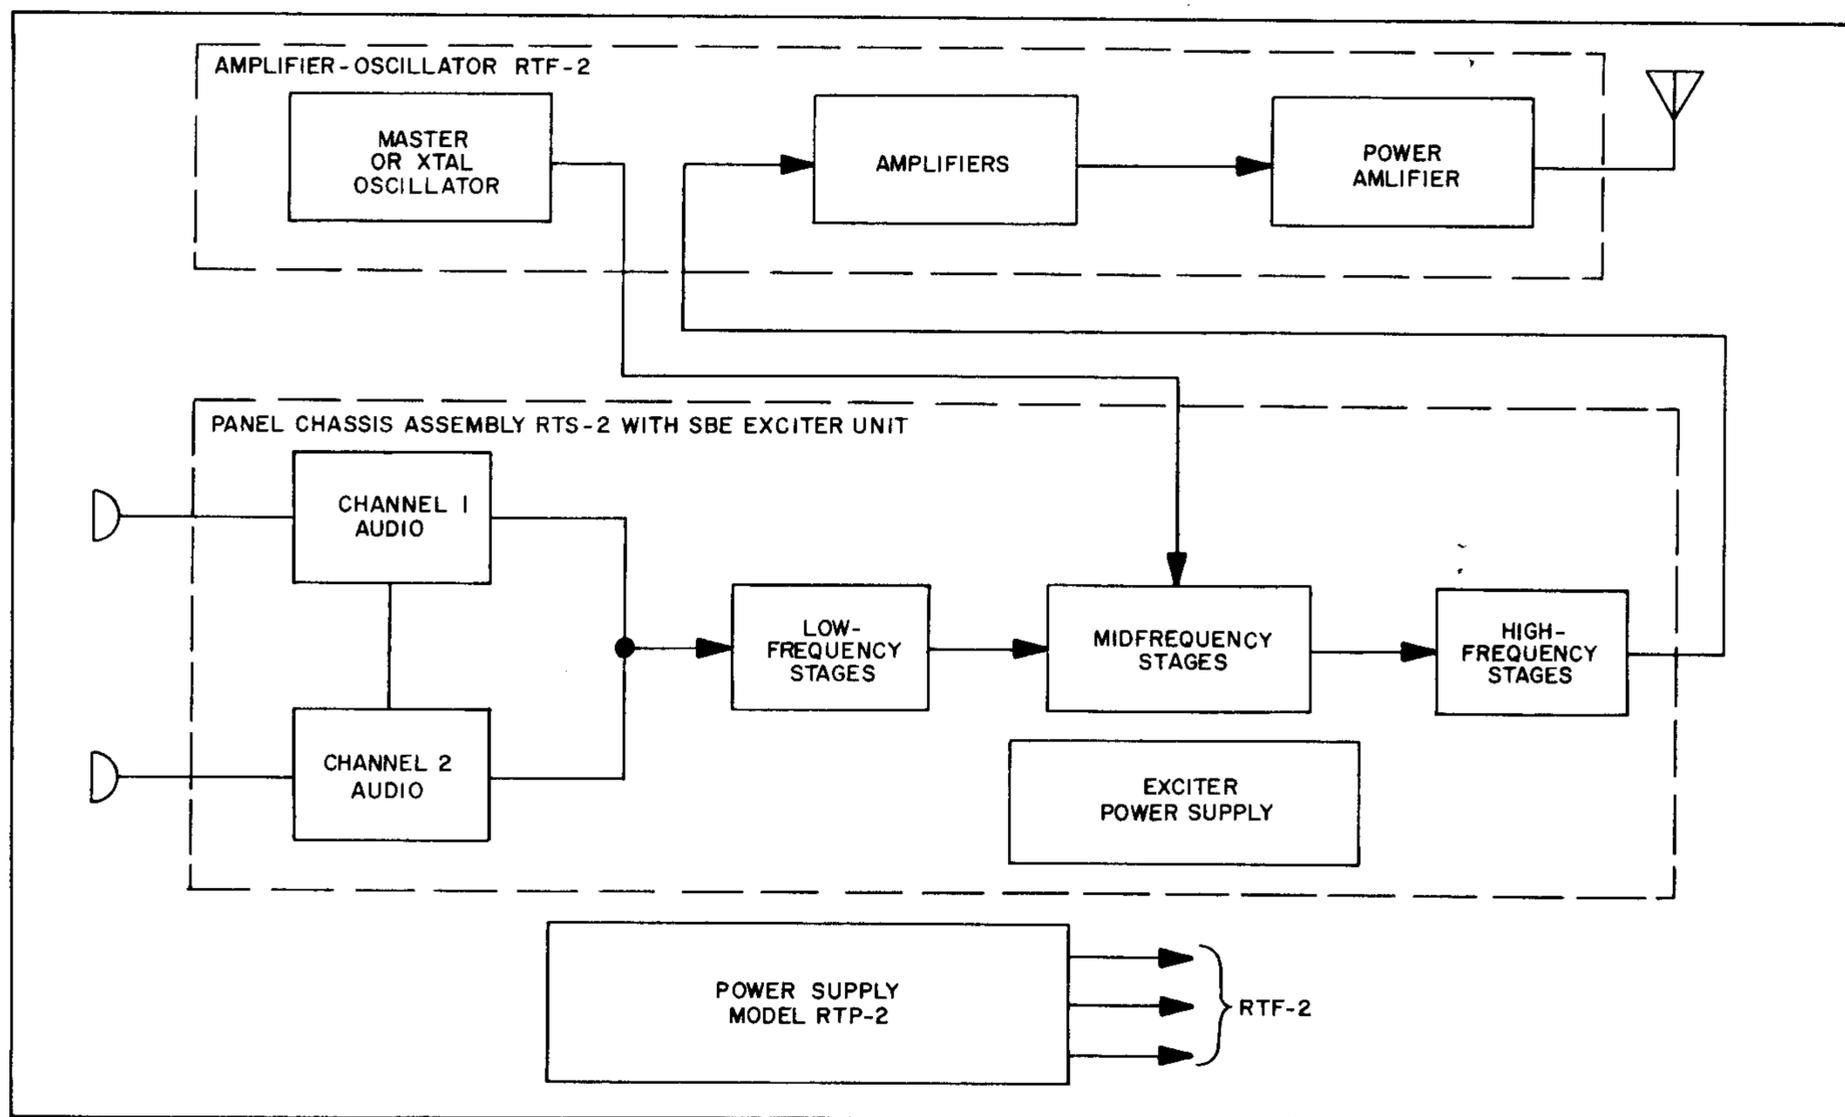

Figure 1-2. Radio Transmitters, Simplified Block Diagram
a. Figure 1-2 is a simplified block diagram of the SSB radio transmitting systems. The RTF-2 is shown as consisting basically of a master oscillator, amplifiers and power amplifier; the exciter unit basically comprises dual channel audio circuits, midfrequency and high frequency circuits; the power supply contains the high voltage, midvoltage, and two low voltage supplies, one for low level plate and screen voltage, and the other for bias voltages.